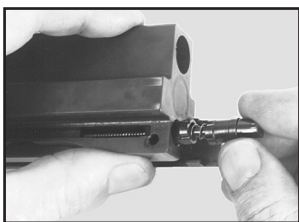

Fig. 28 Insert firing pin spring and firing pin assembly
2. Insert firing pin spring and firing pin assembly into the bolt from the rear and push them forward (Fig. 28).